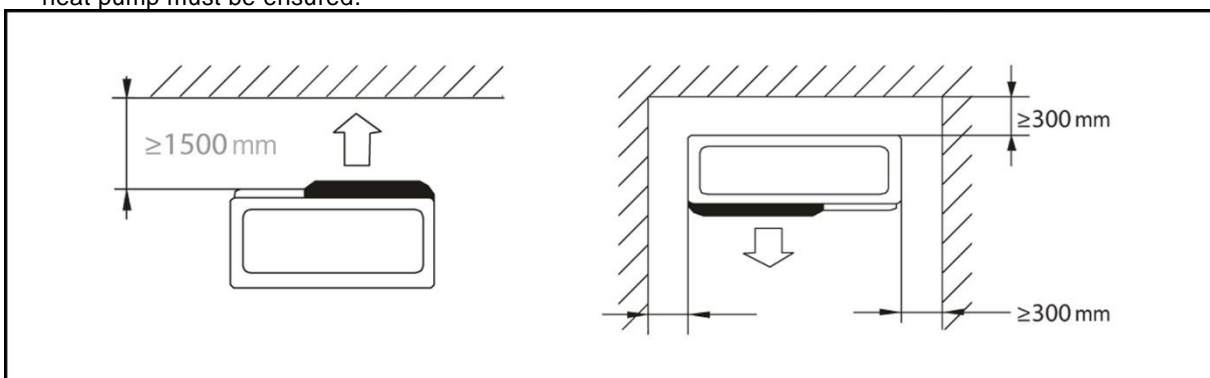

Fig. 3
- Leave a free space of at least 30 cm at the sides and rear of the heat pump (Fig. 3).